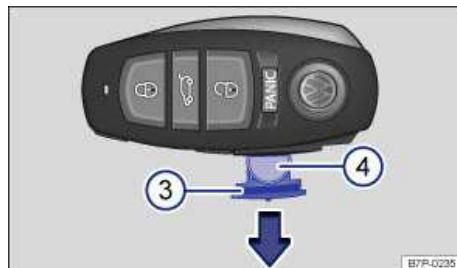

Fig. 25 Opening battery compartment of the remote control vehicle key.
- Pull the battery compartment out ⇒ fig. 25 (3) in the direction of the arrow and remove the battery (4).
- Push the cover as shown ⇒ fig. 25 and press it down (opposite to direction of the arrow) until you hear it click into place.
- Push the battery compartment in the direction opposite to the arrow ⇒ fig. 25 back into the remote control vehicle key fob.